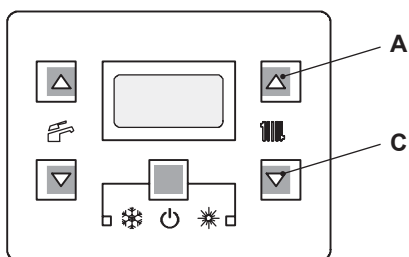

Figure 9.7
- 2 To move through the parameters press C.H. set keys ("A" or "C" Figure 9.7).
- 5 To change the parameters press C.H. set keys ("A" or "C" Figure 9.7).